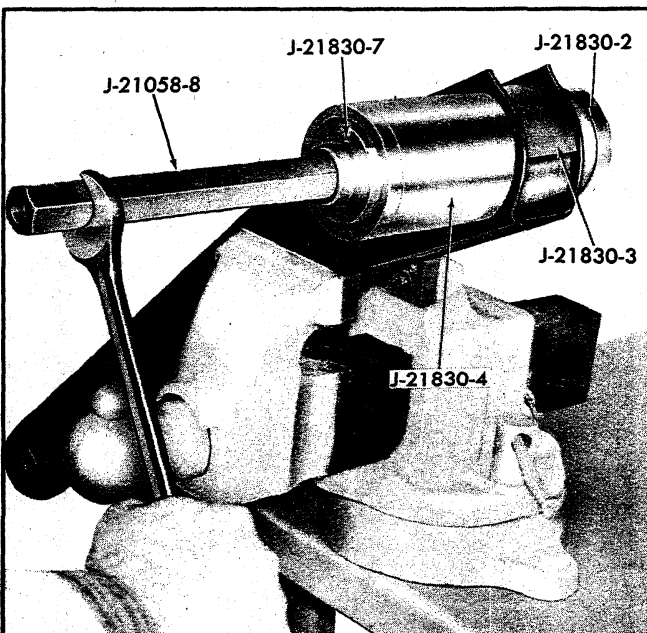

Fig. 35—Lower Control Arm Rear Bushing Removal (Chevrolet)
- c. Check tool installation for proper alignment and tighten J-21058-8 to withdraw bushing from control arm. Refer to Figure 35 for installed view of tools.